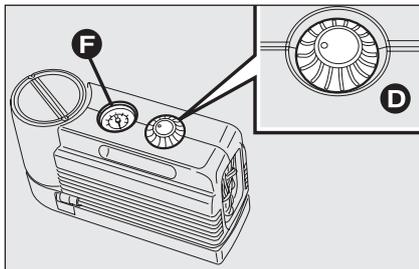
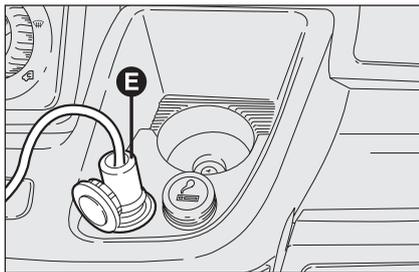

fig. 13
fig. 14
- make sure the compressor switch **D**-fig. 13 is set to **0** (off), start the engine and fit plug **E**-fig. 14 into the nearest current outlet and then turn on the compressor by setting switch **D**-fig. 13 to **I** (on). Inflate tyre at 4 bar pressure.
Check tyre pressure on gauge **F**-fig. 13 with compressor off to obtain precise reading;